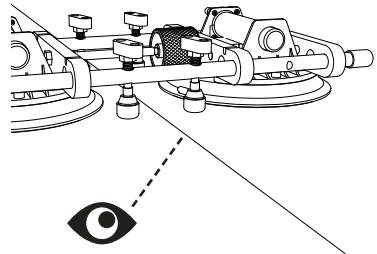

fig. 4
14. Verify seam is level. (see fig. 4)